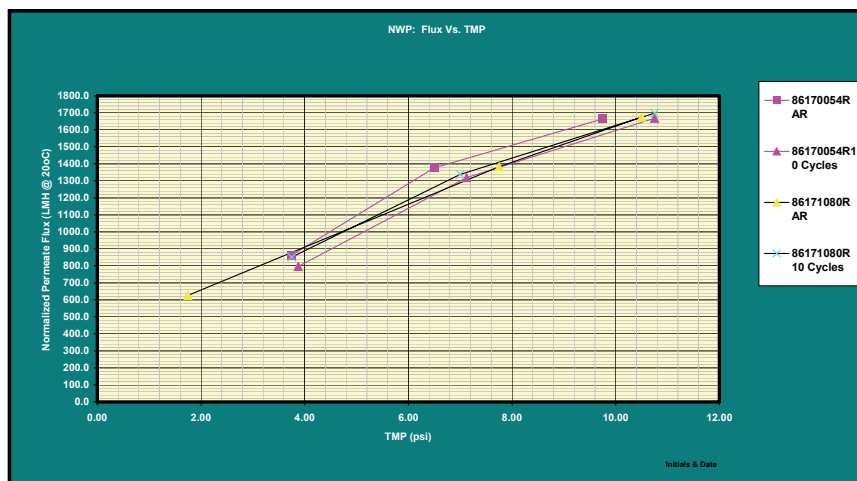

Figure 4: Water Permeability vs. Transmembrane Pressure
After ten (10) cycles of 3 hours at 45 – 50 °C, the samples were within specification for membrane integrity, and water flux. Details of the procedure are given in Section 3.3 on page 9. Results from testing are given in Table 12 and Figures 4 and 5.
Figures 4 and 5 show the Water Permeability vs. TMP and  $\Delta P$  vs. CFF data generated from cycle testing of the PSM65F22 cassettes.